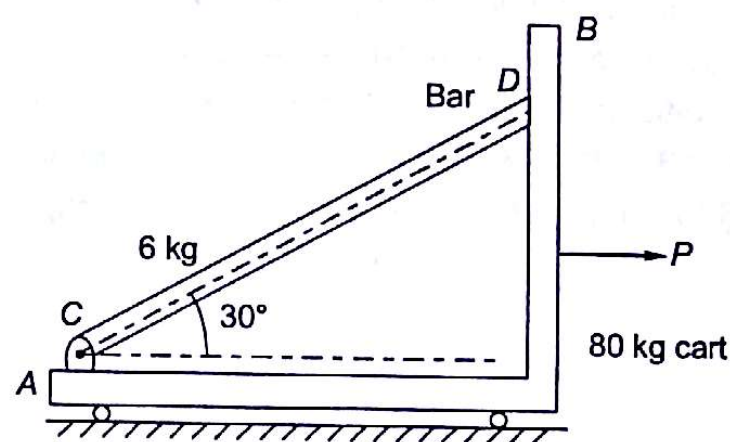

Fig. 15.19
- 15.3 A uniform rectangular block (0.5 m \times 1.0 m and 40 kg mass) is placed on a rough inclined plane, $\mu = 0.2$ as shown in Fig. 15.19. Determine the maximum and